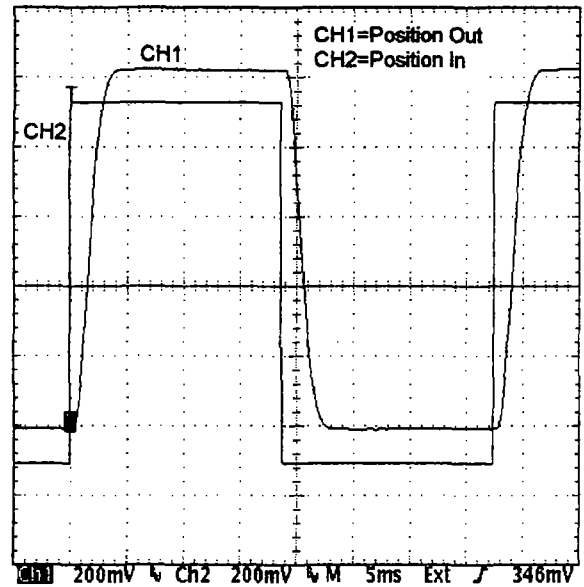

Figure 6.
12. Turn R28 until the first overshoot is minimized. See Figure 6.